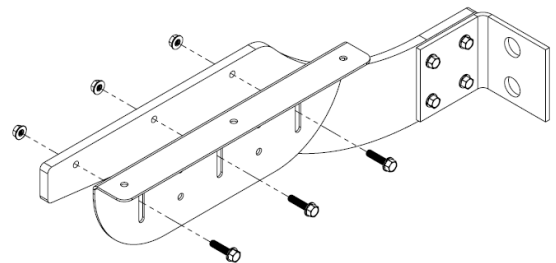

Figure 8
- a. In these cases use the formed steel angle (100212) to connect the fender to the center bracket assembly (Figure 8).